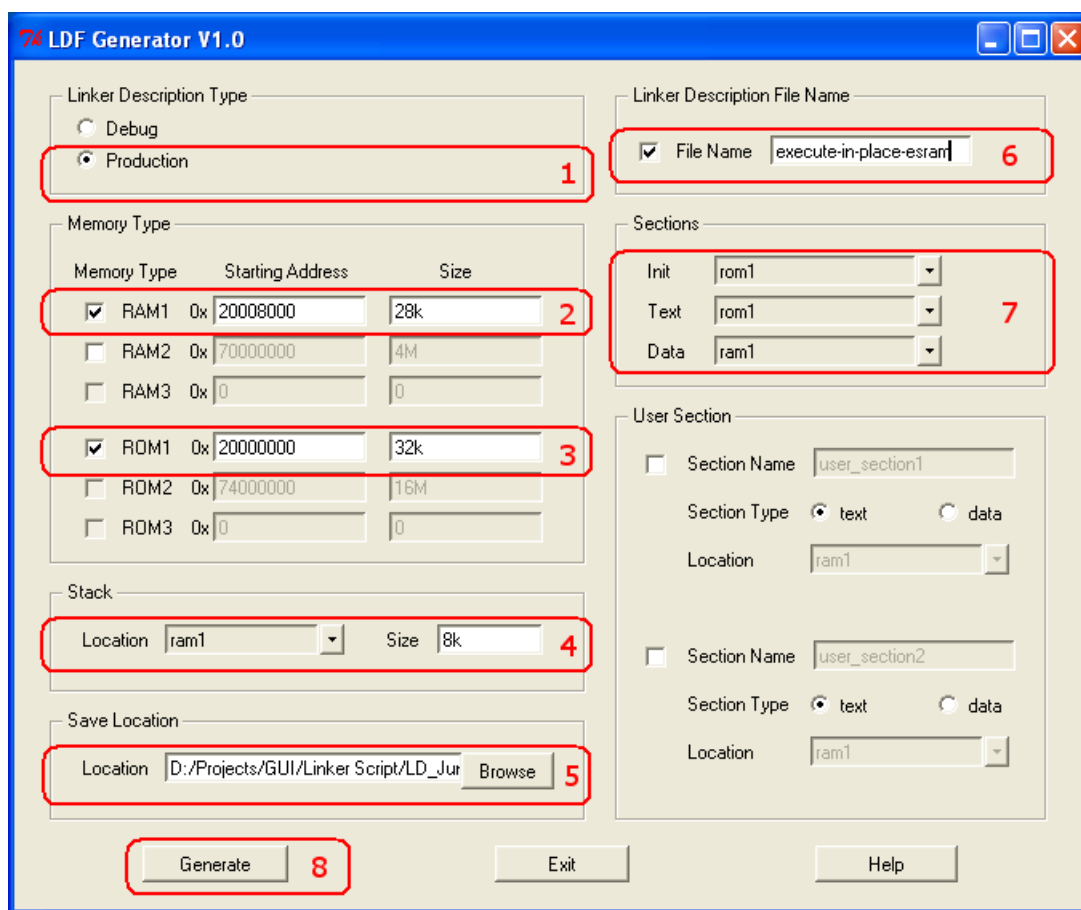

Figure 9 • LDF Generator With Options Selected for Production Mode Image Only Running From eSRAM
- The IAP Programmer completely running from eSRAM uses 60 KB of eSRAM for all the sections of an executable image. Figure 9 shows the LDF Generator with settings for a production mode image that completely runs from eSRAM.
3. The settings in the Figure 9 on page 10 generate the linker script with the memory map shown in Figure 10 for a production mode image. In this application note, this linker script is used to build the IAP Programmer algorithm implemented in software with eSRAM memory map.